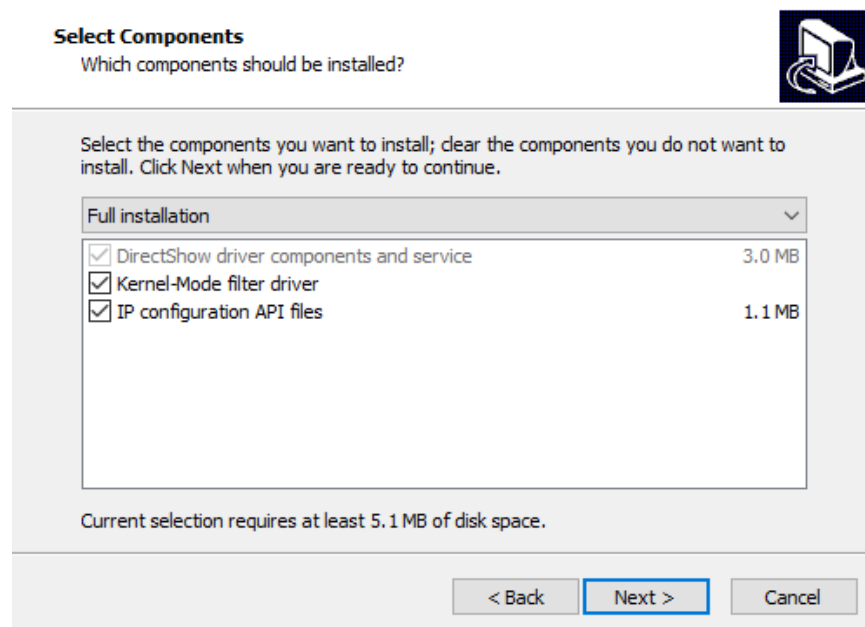

Figure 2.8: Options selection in Ethernet Camera driver installation
2. In Select Components windows, it is possible to select different options Fig. 2.8):